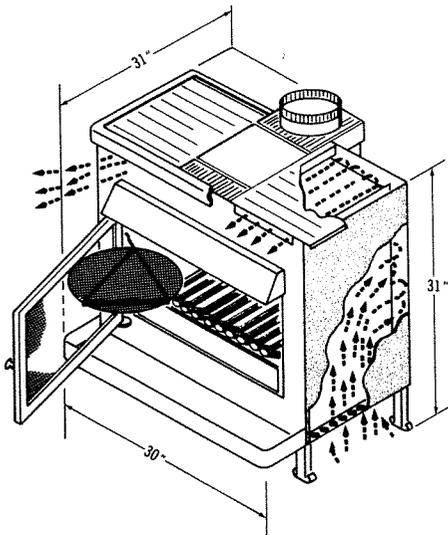

Fig. 45. The Impression 5 freestanding fireplace/stove.
15. **KNT Sales Dept.** (manufacturer), Box 25, Hayesville, OH 44838. The Impression (Fig. 45 and Table 5) has a reflecting heat-shield suspended on the inner back wall, a standing grate for burning coal or logs in the fireplace mode, a "heavy" wire screen door, removable 14½-inch barbecue grill, and full-width ash tray. Glass door kit is optional, as is a thermostatically controlled blower.